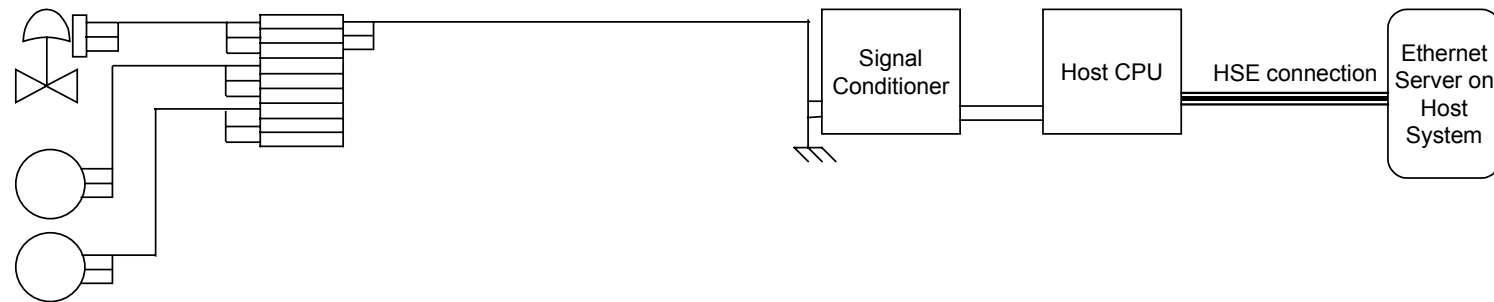

Figure 2: Installation Options for Hosts without Fieldbus Support
The second method is to use a pair of devices available from Smar International. Smar have developed a current to Fieldbus (I/F) and Fieldbus to current (F/I) converter. Figure 1 shows how they might be used with a Fieldbus host system while Figure 2 shows how they could be used as a multiplexer/de-multiplexer pair on a non-Fieldbus system. The current to Fieldbus converter is the model IF132 and FF to current device is model FI302.
- If installed host system does not support fieldbus then the options shown in Figure 2 are possible